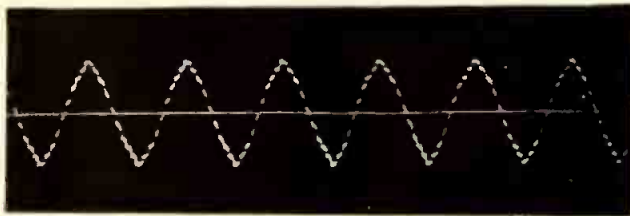
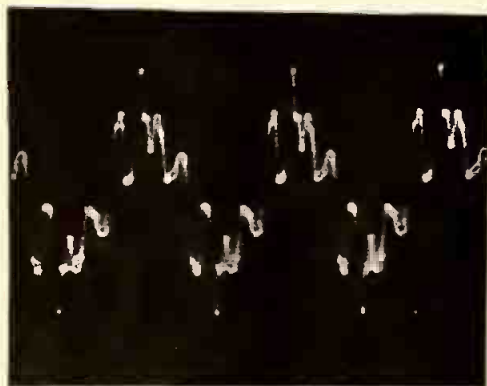

Fig. 6. Braun-Tube Oscillogram of 50 Cycle A. C. With Higher Harmonics.
Fig. 7. Higher Harmonics of Fig. 6, Enlarged. N = 1,500.
Fig. 6 represents the vibration form from the current of a machine connected in a circuit with ohmic resistance only; the frequency (N) is 50. The fine points demonstrate higher harmonics (N being about 1,500). These latter are clearer in Fig. 7. There is a condenser of 10 Microfarads in this circuit.